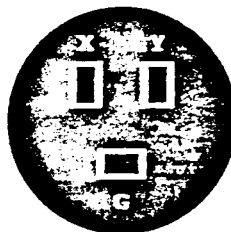

Figure 1.8 - Series 400S, PDU Plug Pinout
- 4. Turn on circuit-breaker CB2. Using a voltmeter, check the AC power for the proper input voltage. The voltage should be between a minimum value of $208 \pm 5\%$ VAC to a maximum value of $240 \pm 5\%$. Take this measurement at the power jack labeled "Service Power/Monitor" located near the lower, right-hand edge of the PDU. (Refer to Figure 1.8 for pin assignment).